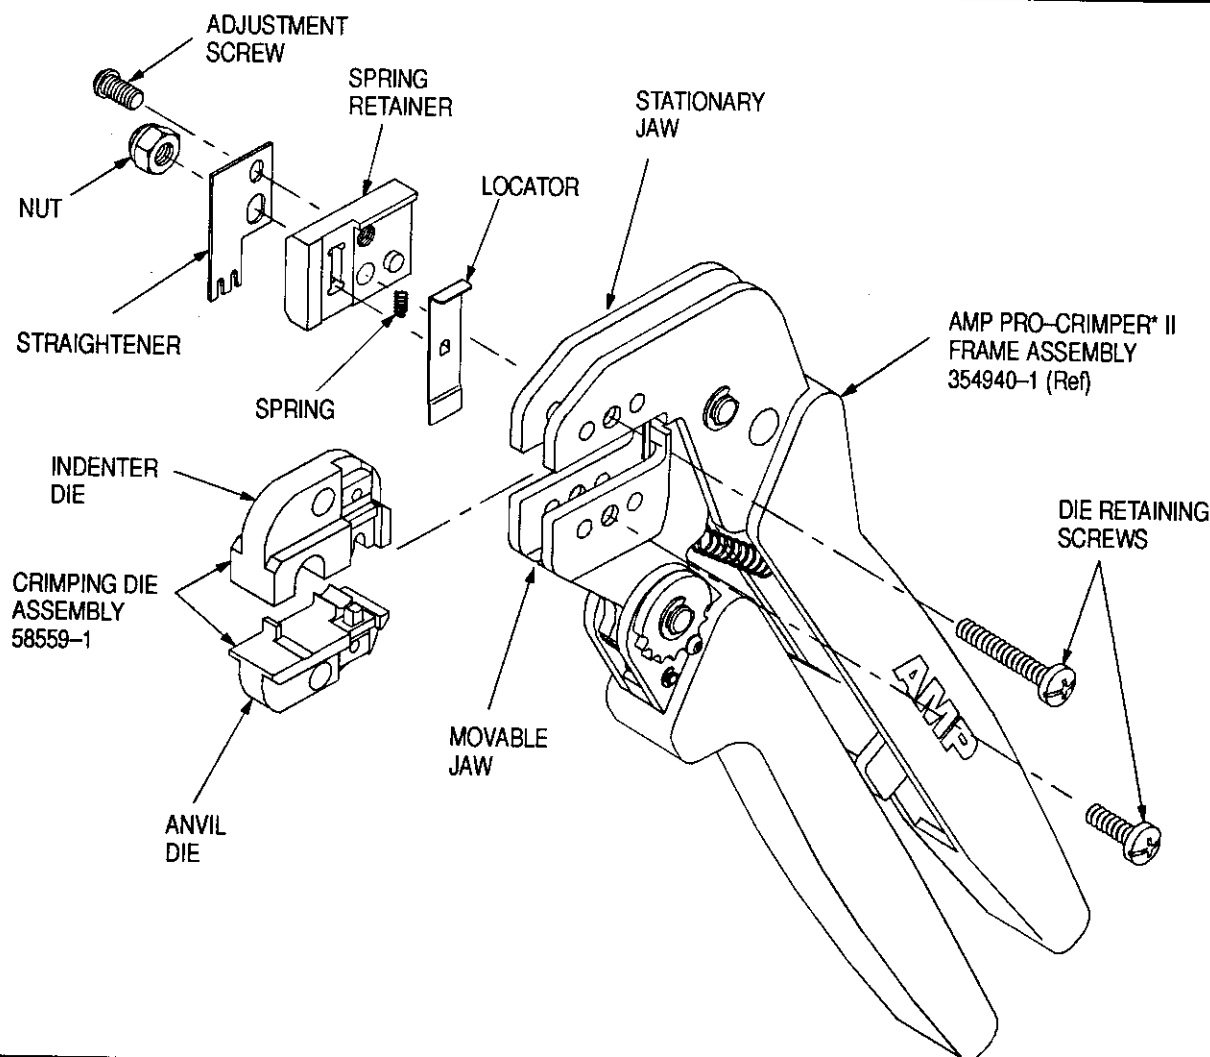

Figure 1
2. DESCRIPTION (Figure 1)
3. INSTALLATION AND REMOVAL OF DIE SET AND LOCATOR AND STRAIGHTENER ASSEMBLY (Figure 1)